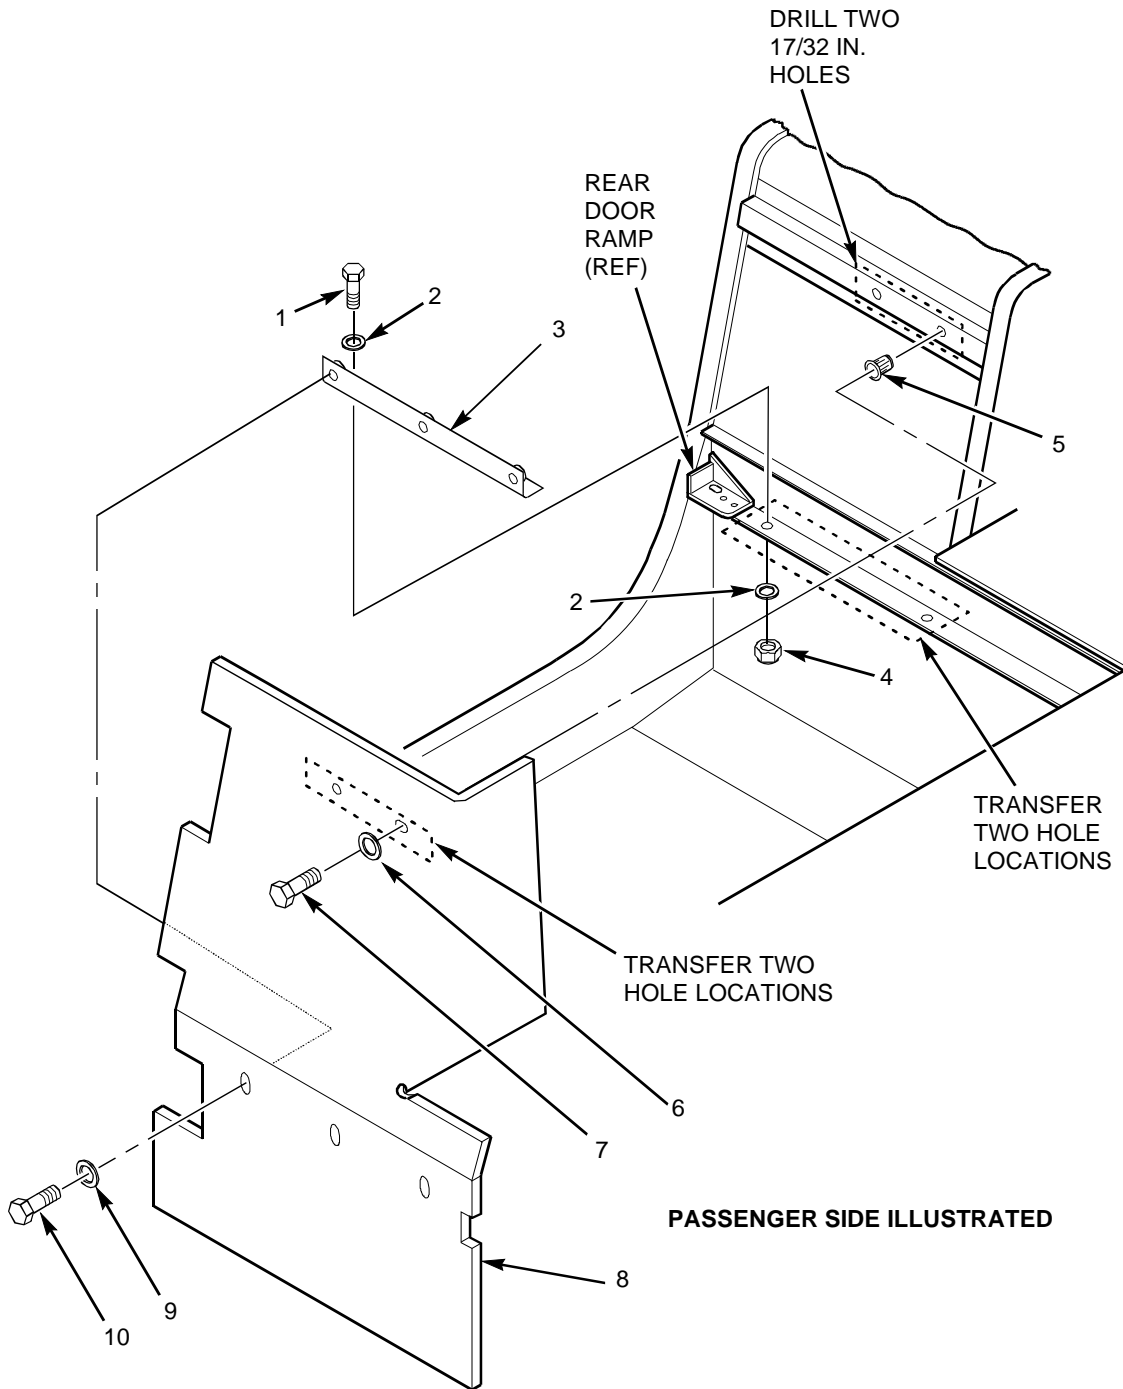

Figure 1-15. Rear Seat Backing Plates Installation (4 Door Only)
- 6) Install rear seat backing plates as follows (see figure 1-15).
- a. Position rear seat backing plate support (3) against rear door ramp and with front surface aligned with C-beam. Transfer two hole locations onto lower C-pillar. Drill two .375 inch diameter holes in lower C-pillar.
- b. Install rear seat backing plate support (3) onto lower C-pillar and secure with two capscrews (1), four washers (2), and two locknuts (4).
- c. Torque capscrews (1) to 10 lb ft (14 N•m).
- d. Temporarily install rear seat backing plate (8) onto rear seat backing plate support (3) and secure with three capscrews (10) and washers (9). Do not torque capscrews (10). Transfer two-hole locations to C-pillar per figure 1-15.
- e. Remove three capscrews (10) and washers (9) securing rear seat backing plate (8). Remove rear seat backing plate (8).
- g. Install two upset fasteners (5) into C-pillar.
- h. Apply sealing compound to three capscrews (10) and two capscrews (7).
- i. Install rear seat backing plate (8) into vehicle and secure with three capscrews (10), three washers (9), two capscrews (7), and two washers (6). Torque three capscrews (10) to 37 lb ft (50 N•m). Torque two capscrews (7) to 37 lb ft (50 N•m).